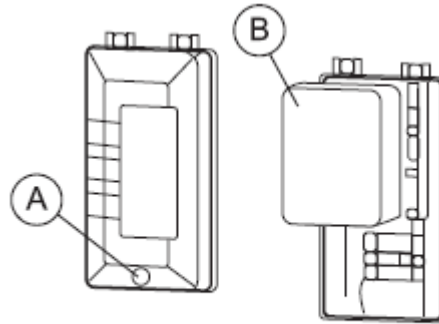

Figure-14 Air Filter Assembly
- Unscrew the filter attachment screws (A). **See Figure-14.**
- Carefully remove the pre-cleaner and wash it with liquid detergent and water. And then Squeeze dry in clean cloth (DO NOT TWIST). (B). **See Figure-14.**